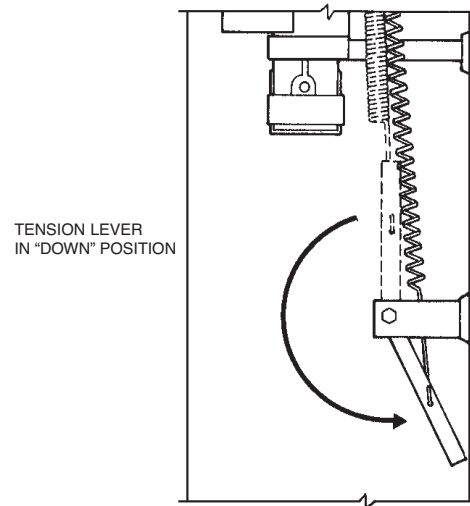

FIGURE 6
- ▶ 11. Make certain that each tank is filled with 1.5 (5.8 L) or 3.0 (11.6 L) gallons of only ANSULEX Low pH Liquid Fire Suppressant. Fill level to be ONLY to the level indicated in the "Installation" section. See Page 5-2.1, Figure 6, for detailed filling tolerances.
- ▶ 21. Lower tension lever to "DOWN" position. See Figure 6.